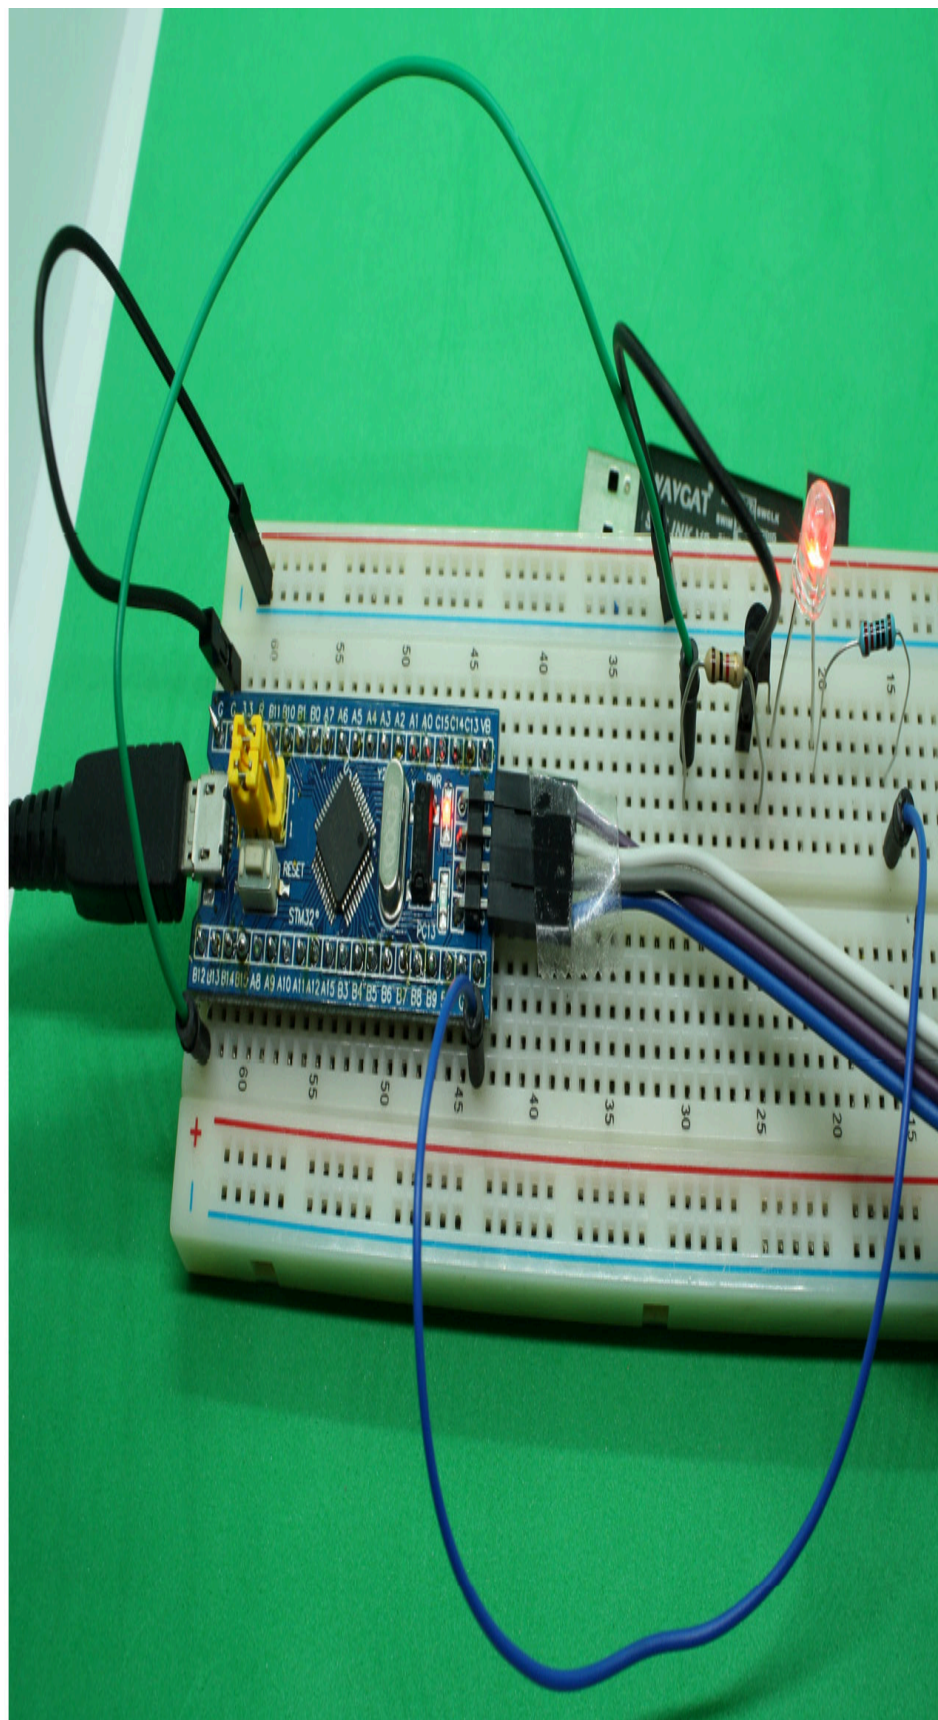

Figure 6.6 – Connecting the super-bright LED to a 2N2222 transistor
*Figure 6.6* shows how everything is connected:
*Figure 6.6* shows the 2N2222 transistor connected to the BluePill's ground and 3.3 (3.3 V) pins. The transistor is connected at the left of the super-bright LED. The next section deals with connecting the super-bright LED to the Curiosity Nano board using a resistor and a transistor.